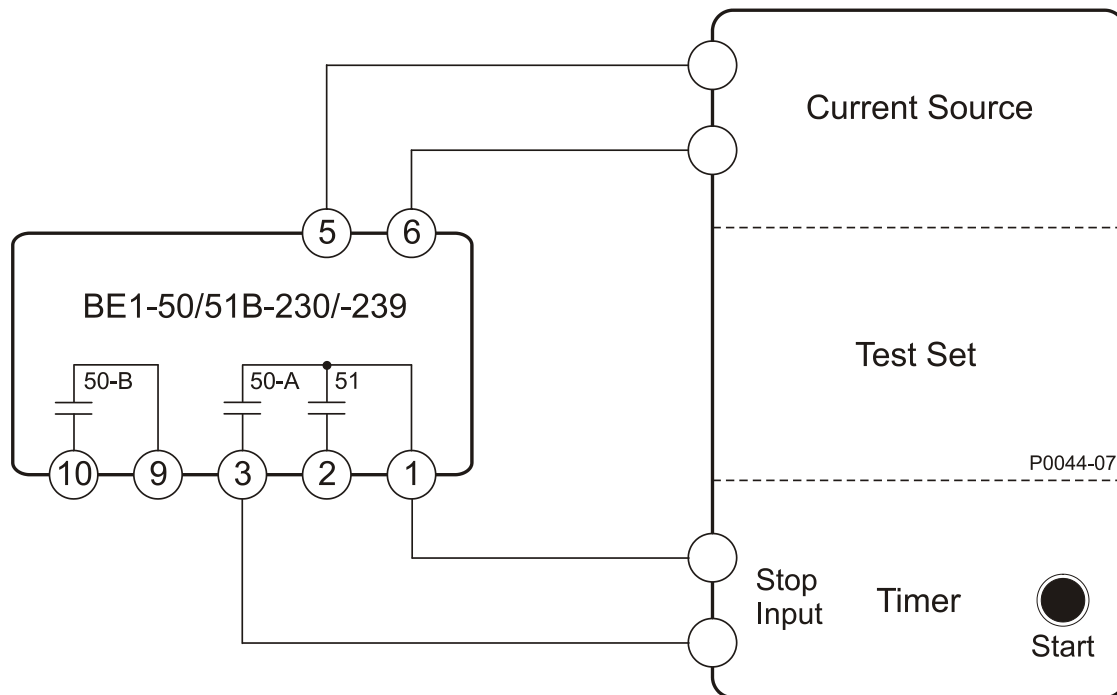

Figure 5-2. 50-A Pickup Test Setup
- a. Connect the test setup shown in Figure 5-2.